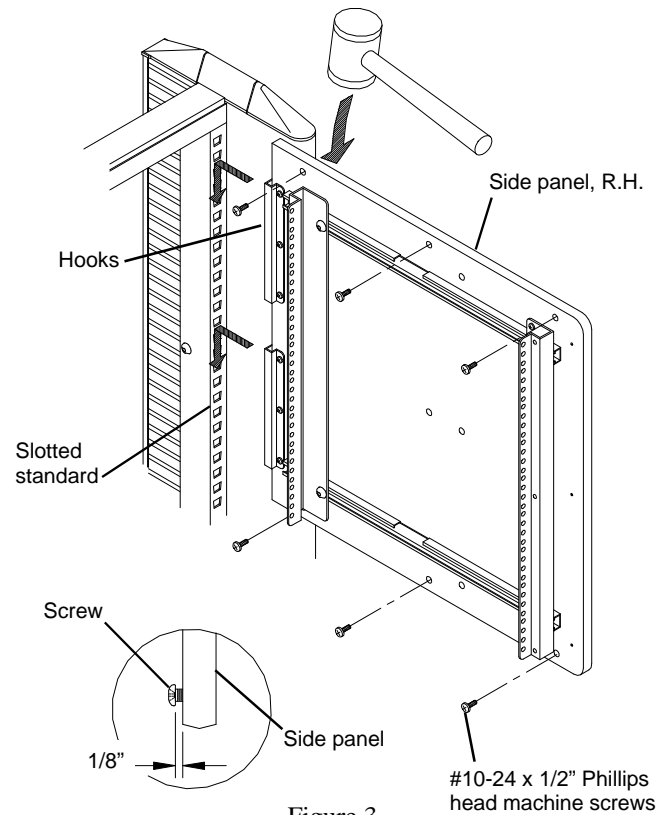

Figure 3
1. Position the Side Panel in the desired location . Insert the hooks in the Side Panel into the Slotted Standard and push down. To assure the hooks are seated, tap the rear corner with a plastic mallet or equivalent. See **Figure 3**.
3. Install six #10-24 x 1/2" Phillips head machine screws in each Side Panel. Install 3 screws at the top and 3 screws at the bottom of each panel. Leave approximately 1/8"(3mm) of thread exposed. See **Figure 3**.